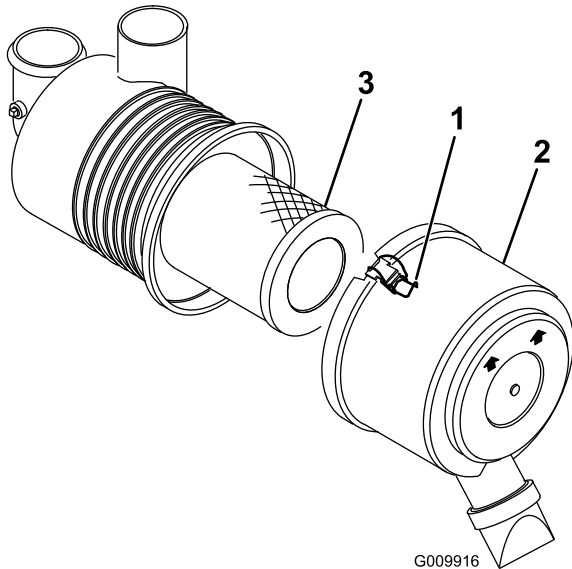

Figure 44
1. Release the latches securing the air cleaner cover to the air cleaner body (Figure 44).
4. Remove and discard the filter (Figure 44).